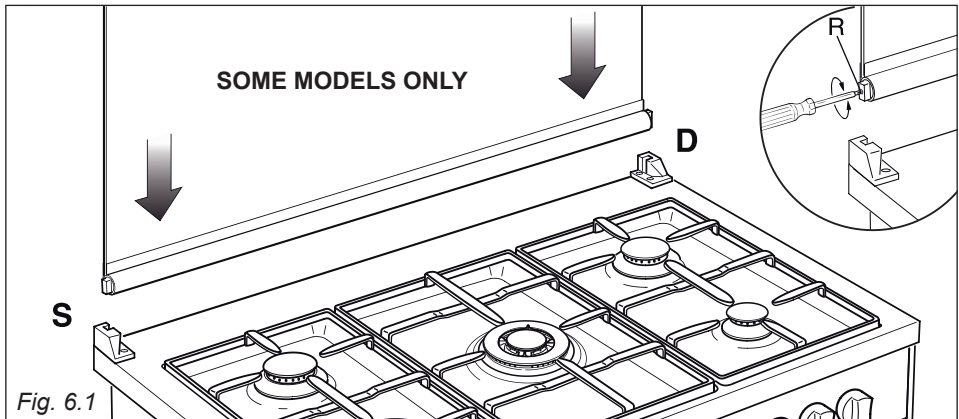

Fig. 6.1
- The right housing must receive the hinge marked “D” while the left housing must receive the hinge marked “S” (fig. 6.1).
Lower the lid and check the correct balance. While opened at 45° it should hang up. The springs of the hinges can be adjusted if necessary by turning the screws “R” clockwise (fig. 6.1).